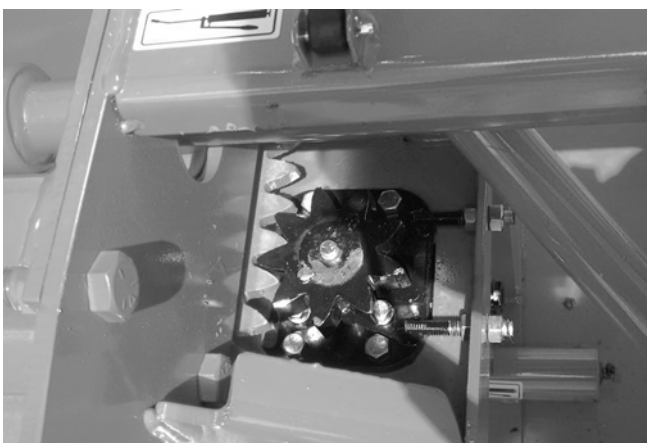

Figure 23
- 4) Using the take-up screws, adjust gear to mesh without bottoming (Fig. 23).